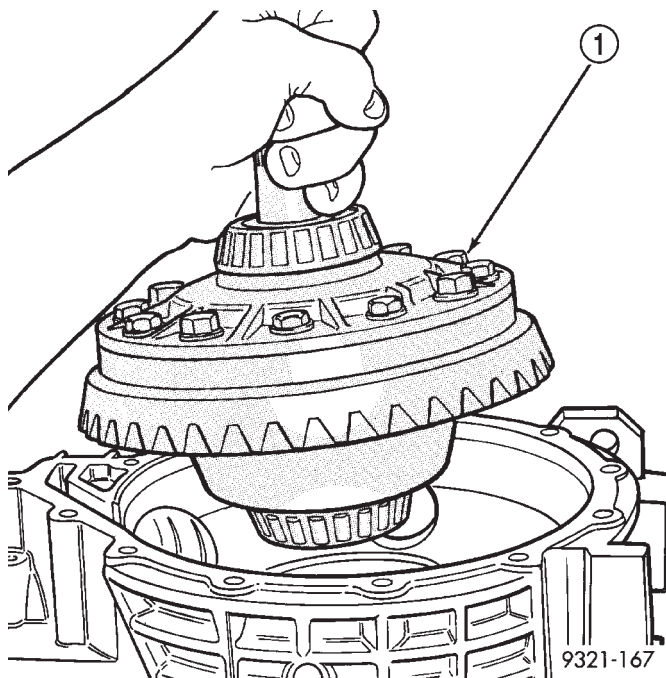

Fig. 405 Differential Assembly Installation
(25) Install differential assembly into the transaxle case (Fig. 405).